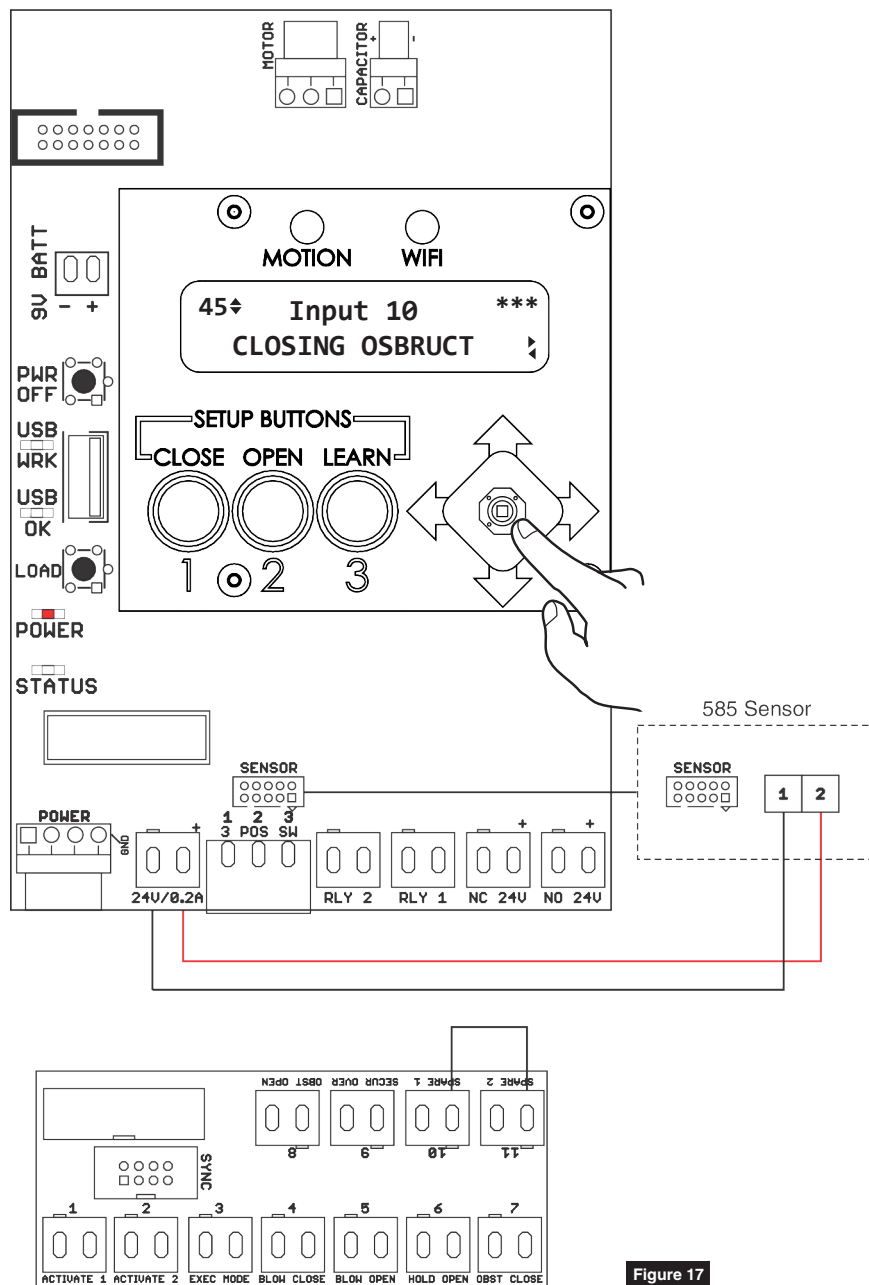

Figure 17
2. Change Input 10 value to Closing Obstruct using control board joystick and LCD screen (Figure 17) or refer to page 9, Wi-Fi Method.
3. Change Input 11 to Opening Obstruct using control board joystick and LCD screen (Figure 17) or refer to page 9, Wi-Fi Method.
5. Jumper Input 10/Spare 1 and Input 11/Spare 2. (Figure 17)
6. Plug in 585 Sensor 10 pin connector to 6300 control board. (Figure 17)
7. Wire 24VDC from 6300 control board to Pin 1 and Pin 2 on 585 Sensor. (Figure 17)